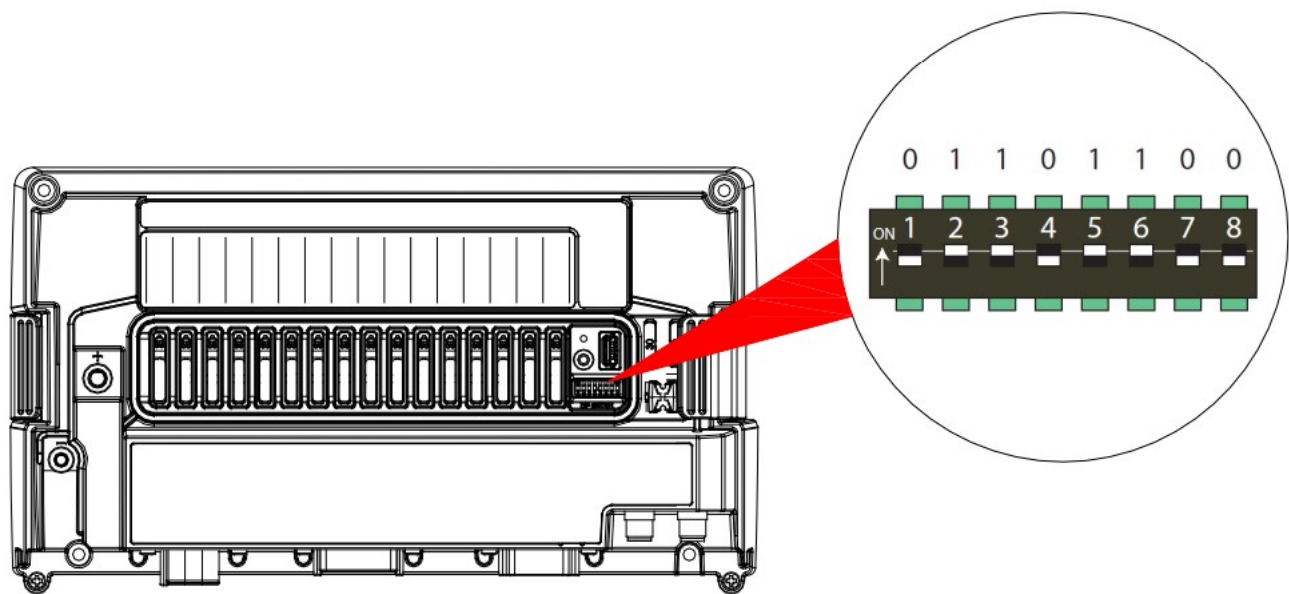

Figure 12. Setting Dipswitch
- Using a small screwdriver carefully set the dipswitch on the Control 1. The dipswitch number must be unique for all modules on the Cone network and must match the dipswitch setting in the configuration to function correctly. The example in Figure 12 shows a dipswitch number of 01101100 where 0 = Off and 1 = On